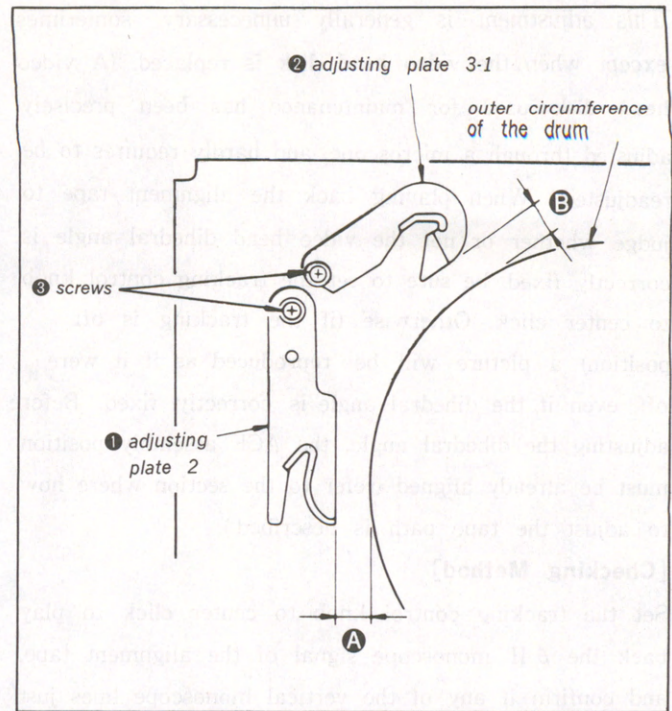

Fig. 7-18. Detecting the positions of the adjusting plates 2 and 3-1.
- 3) Unscrew the screws **3** shown in Fig. 7-18 to detach the adjusting plates 2 **1** and 3-1 **2**.
Similarly to when replacing the drum assembly, measure the size of the gap between the upper drum and the adjusting plates (Fig. 7-18).